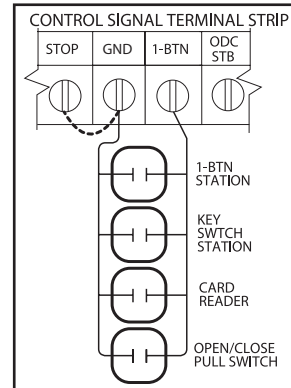

**Figure 3**
- 1) For a single 3-button installation, make connections as shown in **Fig. 3.**